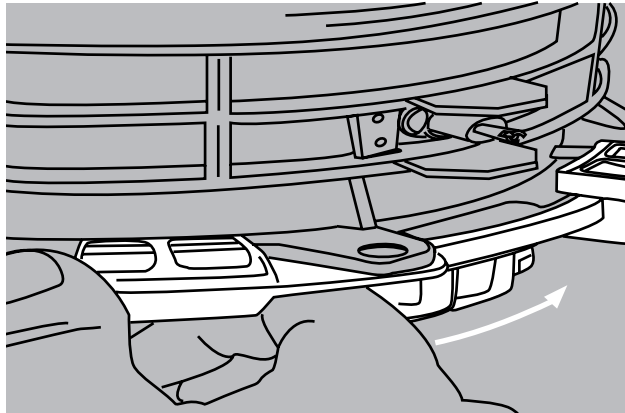

Figure 26
26. Allow the closure and end plate to locate/engage with the closure seated on the "O" ring. Rotate the sealing collar clockwise to seal both units together. (Figure 26)